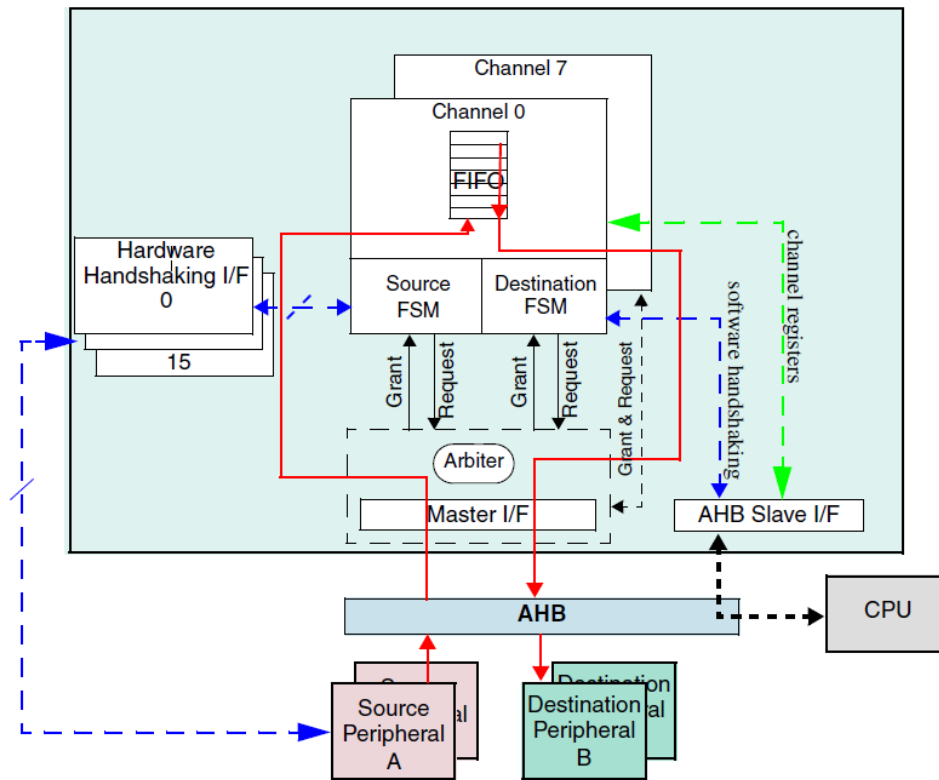

Fig 9-2 Peripheral-to-Peripheral DMA transfer on the same AHB layer
One channel of the DMAC is required for each source/destination pair. In the most basic configurations, as illustrated in Fig 9-2, the DMAC has one master interface and one channel. The master interface reads the data from a source peripheral (A) and writes it to a destination peripheral (B). Two AHB transfers are required for each DMA data transfer; this is also known as a dual-access transfer.
Fig 9-2 illustrates a peripheral-to-peripheral DMA transfer, where peripheral A (source) uses a hardware handshaking interface, and peripheral B (destination) uses a software handshaking interface. For example, the request to send data to peripheral B is originated by the CPU, while writing to peripheral B is handled by the DMAC. The channel source and destination arbitrate independently for the AHB master interface, along with other channels.